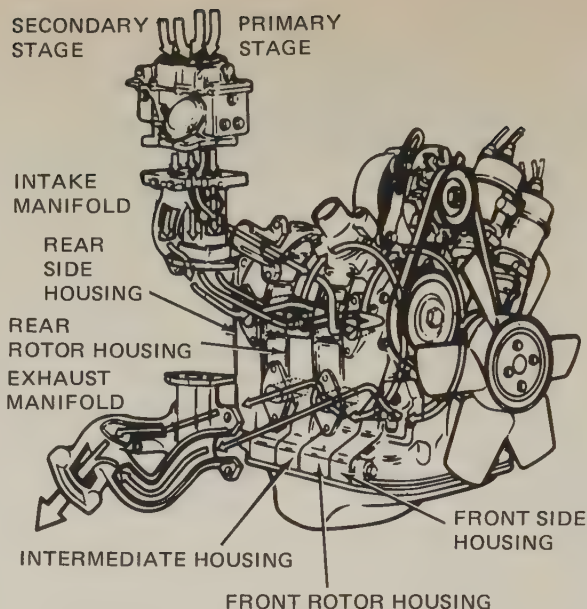

FIG. 13-15 Location of the manifold and carburetor. (Toyo Kogyo Company, Ltd.)
○ 13-6 FUEL SYSTEM Figure 13-15 shows the location of the intake manifold and the carburetor on a two-rotor rotary combustion (RC) engine. The carburetor is a four-barrel unit, similar to the four-barrel carburetor used on automobile piston engines. The carburetor has four round channels, or barrels, through which air-fuel mixture can flow to the engine. We discuss carburetors and fuel systems in Chaps. 17 and 18.
The arrows in Fig. 13-16 indicate the paths the air and the air-fuel mixture take on their way to the engine. The primary stage of the carburetor feeds the two rotors through intake ports in the intermediate housing. The primary stage provides the air-fuel mixture for all operating conditions up to medium speed. For acceleration and full-power operation, the secondary stage comes into operation. In Fig. 13-15, note that the secondary stage feeds the air-fuel mixture